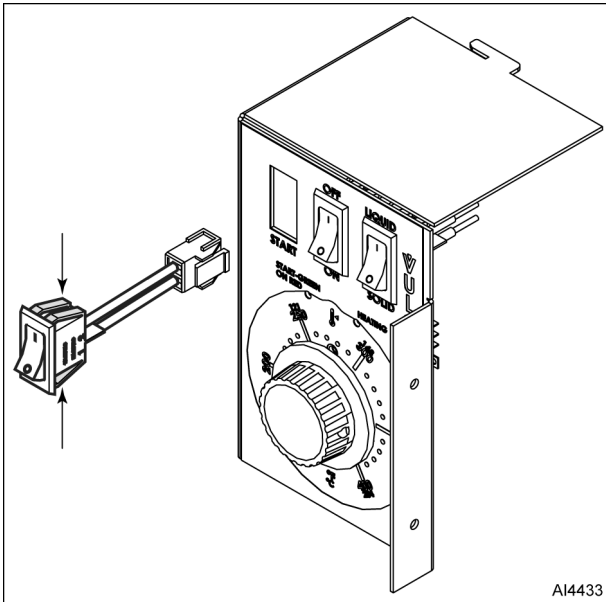

Fig. 10
3. Remove rocker switch (Fig. 10) from control box assembly.